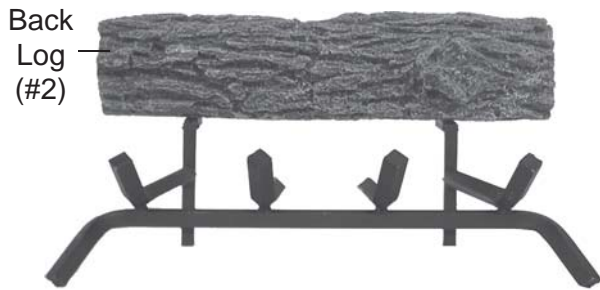

**Figure 45 - Installing Top Middle Log (#5)**
12. Install top middle log #5. See Figure 45.